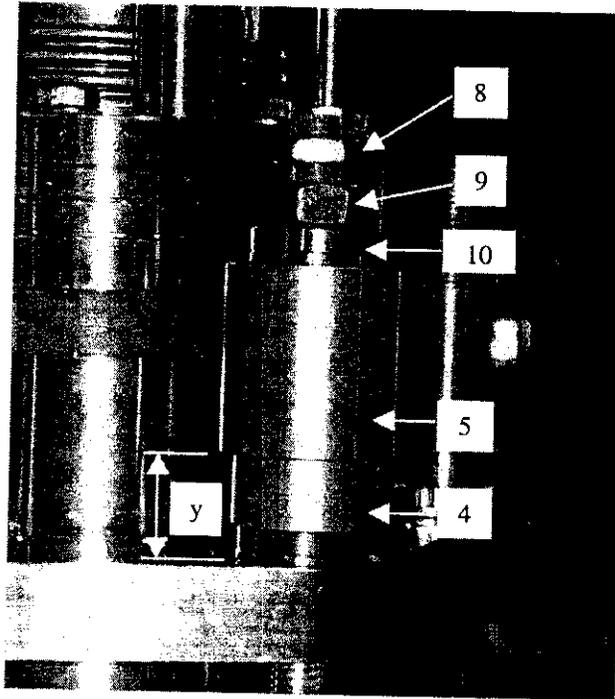
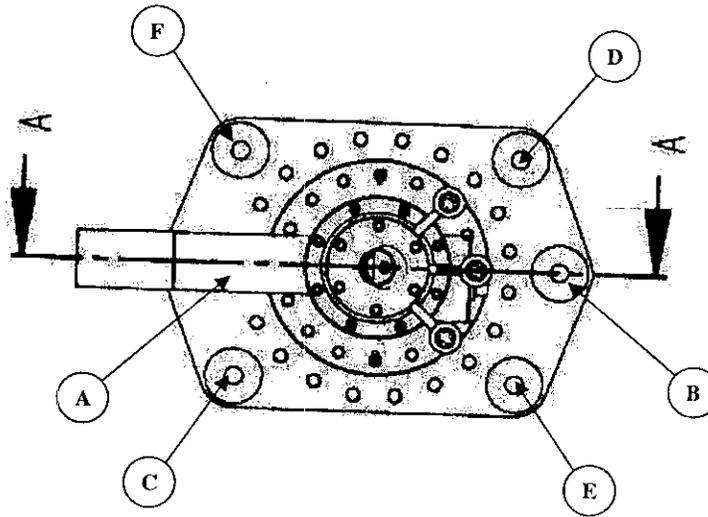

Figure 1.28a An installed Belleville Washer Assembly.
Figure 1.29.1.5 The specified sequence for tightening the Belleville Washer Assemblies.
- 1.28 Install Belleville Washer Assemblies on each tensioning stud per Figures 1.28a and 1.28b. A spherical washer must be placed below the Belleville washer holder on each stud. In the figures: Items 11 (10 each) are Belleville Washers, arranged as shown; Items 6 (2 each) are flat washers; Items 4 and 5 are the Belleville Washer Holder; Item 10 are Spherical Washers for above and below the washer holder; Item 9 is a loading nut; and Item 8 is a jam nut.
- 1.29.1.5 Remove the adjustable parallels from under each Belleville washer assembly, then replace them and measure the final gaps 'y' in Figure 1.28a. Units are mm.
- 1.29.2.2 Tighten the 6 loading nuts finger-tight. With adjustable parallels, measure and record the gap "y" indicated in Figure 1.28a between Item 5 and the current lead top flange at the 6 locations specified in Figure 1.29.1.5. Units are mm.
- 1.29.2.4 Using the sequence A through F in Figure 1.29.1.5, tighten the loading nuts ¼ turn until the total compression is 1.8 mm at each of the six locations. As each of the loading nuts is turned ¼ turns, check off the appropriate line.
1.29.2.5 Record the final measured gaps 'y' in Figure 1.28a. Units are mm.